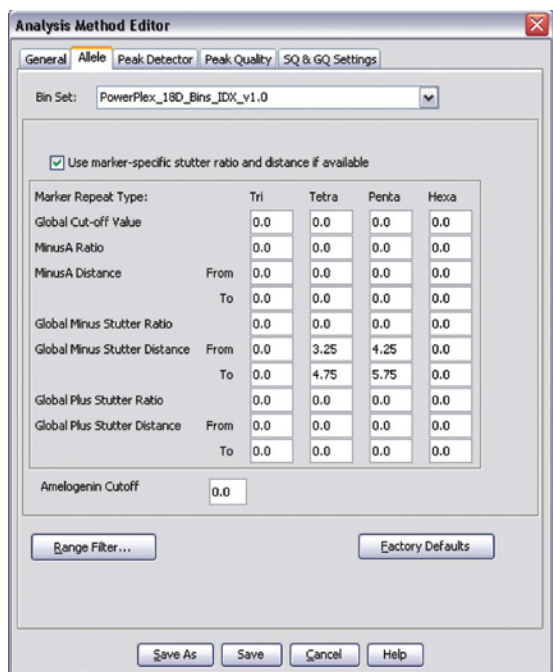

Figure 14. The GeneMapper® ID-X Software 'Allele' tab.
6. Select the 'Allele' tab (Figure 14).
8. Ensure that the "Use marker-specific stutter ratio and distance if available" box is checked. Doing this will assign locus-specific stutter filters and distances from the imported stutter file (Figure 14).